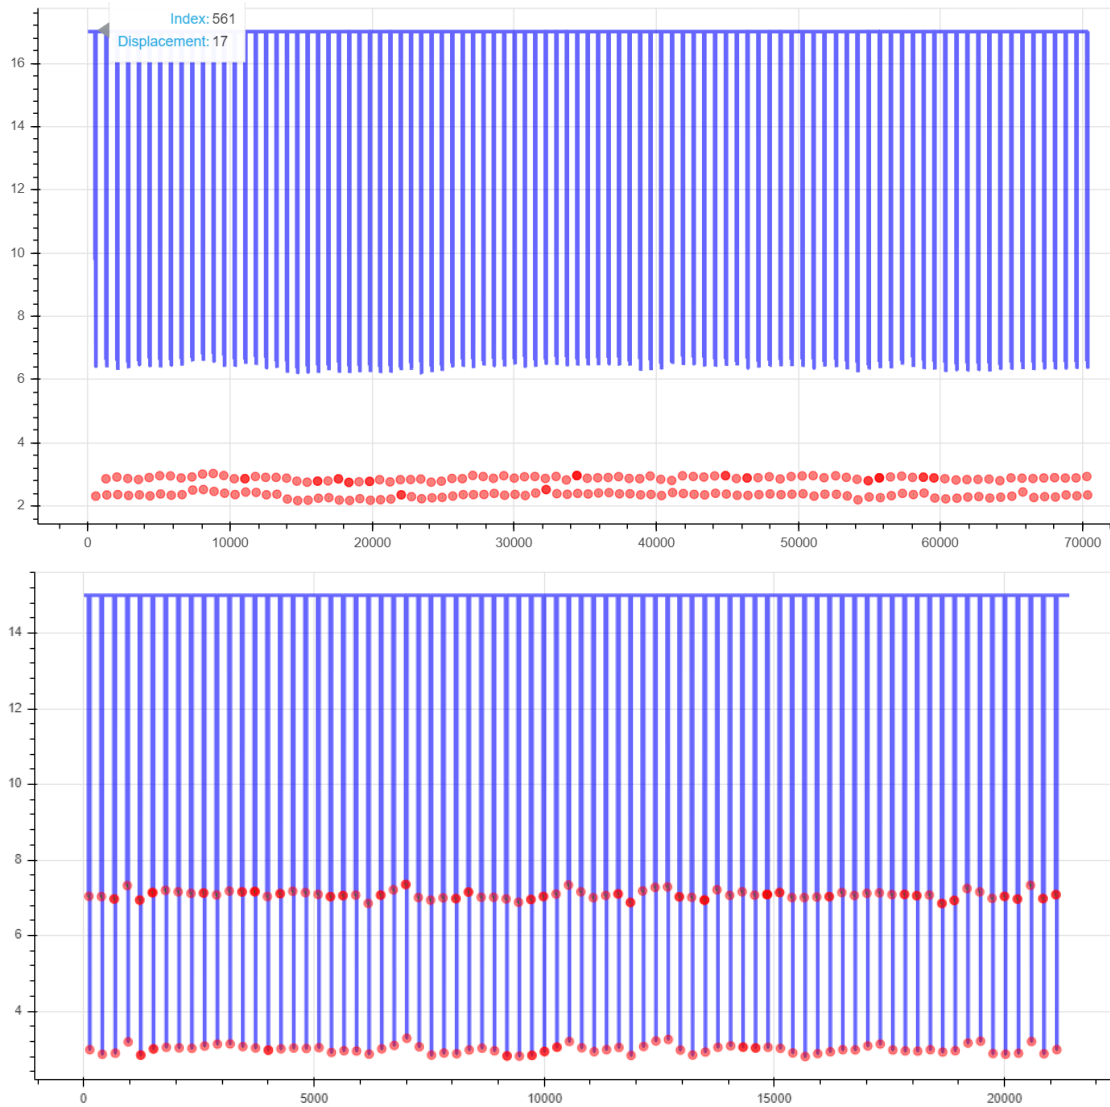
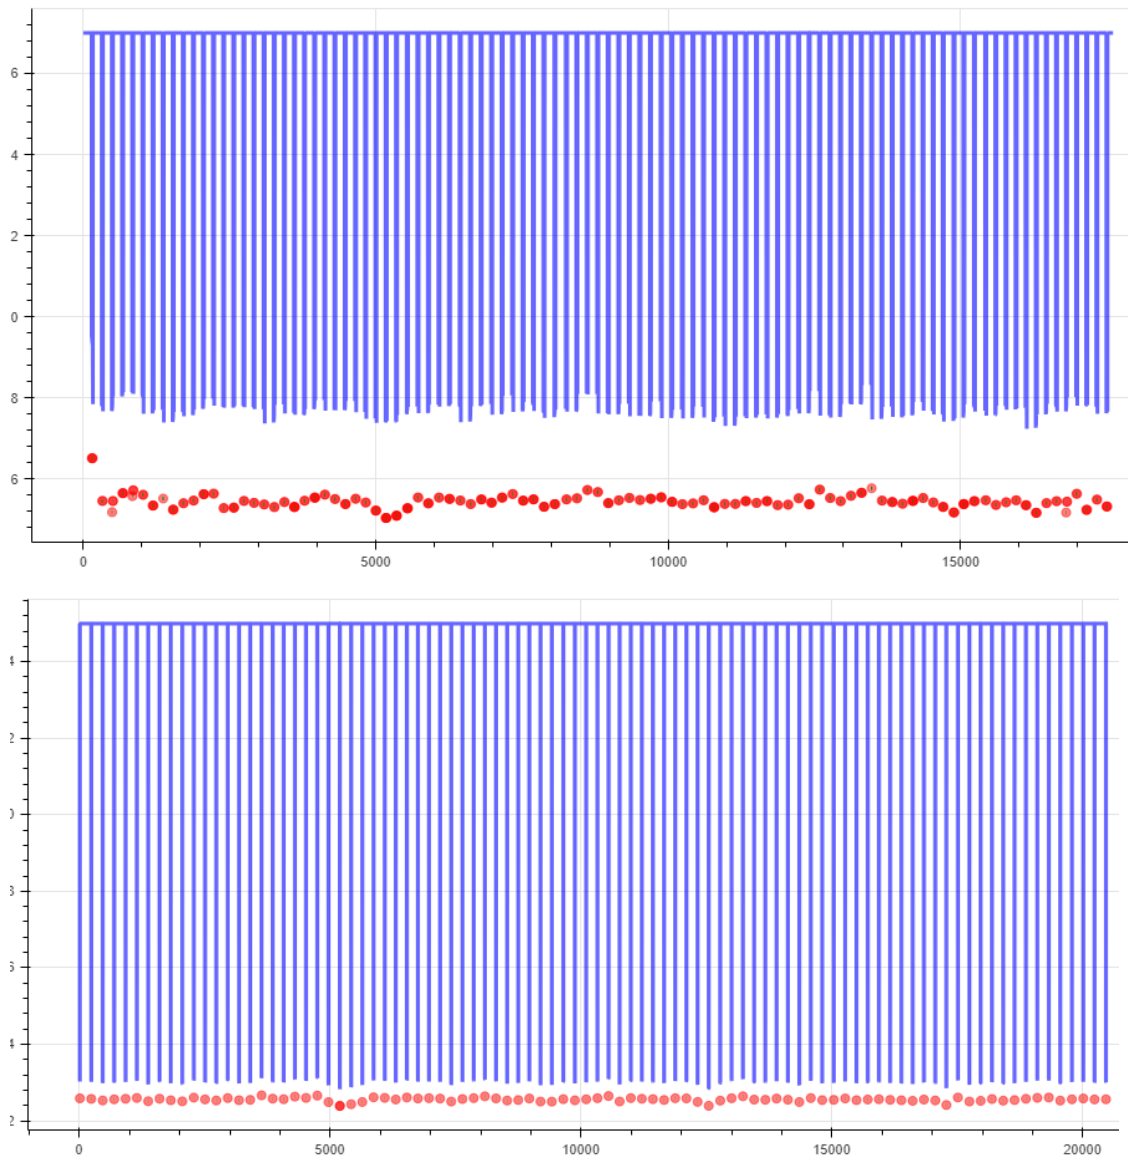

Figure 46 Clear Double Counting
Figure 47 Discrete Double Counting
7.1.7. Figure 46 Clear Double Counting occurs when the sample frequency is set too high and the tool misidentifies multiple points on the airfoil as different airfoils.
3. Pervasive double counting (See the top plot of Figure 47 Discrete Double Counting) and clear shelf double counting (See Figure 46 Clear Double Counting) is not allowed. Analysis must be re-run.
7.1.8. Figure 47 Discrete Double Counting is a more common phenomenon that occurs over all frame sizes.
7.1.8.1. Discrete double counting occurs for a variety of reasons, if no more than 1/8 of airfoils measured exhibit discrete double counting on the airfoil tip (See the bottom plot in Figure 47 Discrete Double Counting) the maximum clearance error has been calculated to be ~10-13%.
7.1.8.2. Pervasive double counting (See the top plot of Figure 47 Discrete Double Counting) and clear shelf double counting (See Figure 46 Clear Double Counting) is not allowed. Analysis must be re-run.
7.1.8.4. In Figure 47 Discrete Double Counting the top plot shows pervasive double counting in that a majority of airfoils have overlapping clearance values. This data is unacceptable and should be re-run